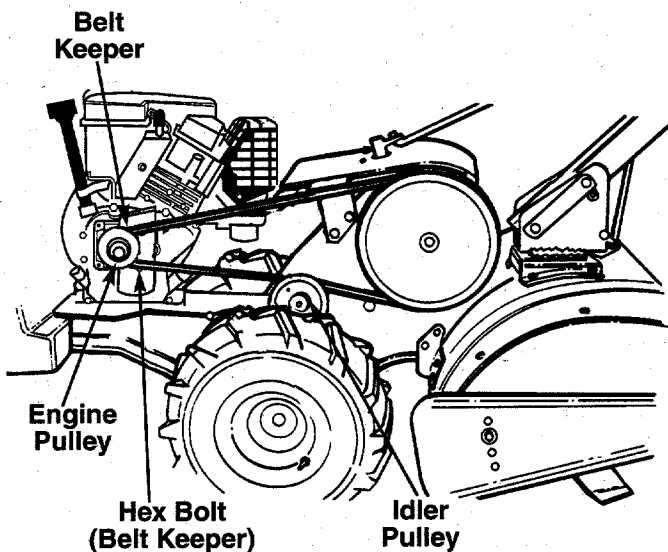

FIGURE 17.
3. Remove the hex bolt (belt keeper) located beneath the engine pulley. See figure 17.
NOTE: Upon reassembly, make certain the belt is routed over the idler pulley and inside of belt keepers by engine pulley. See figure 17.